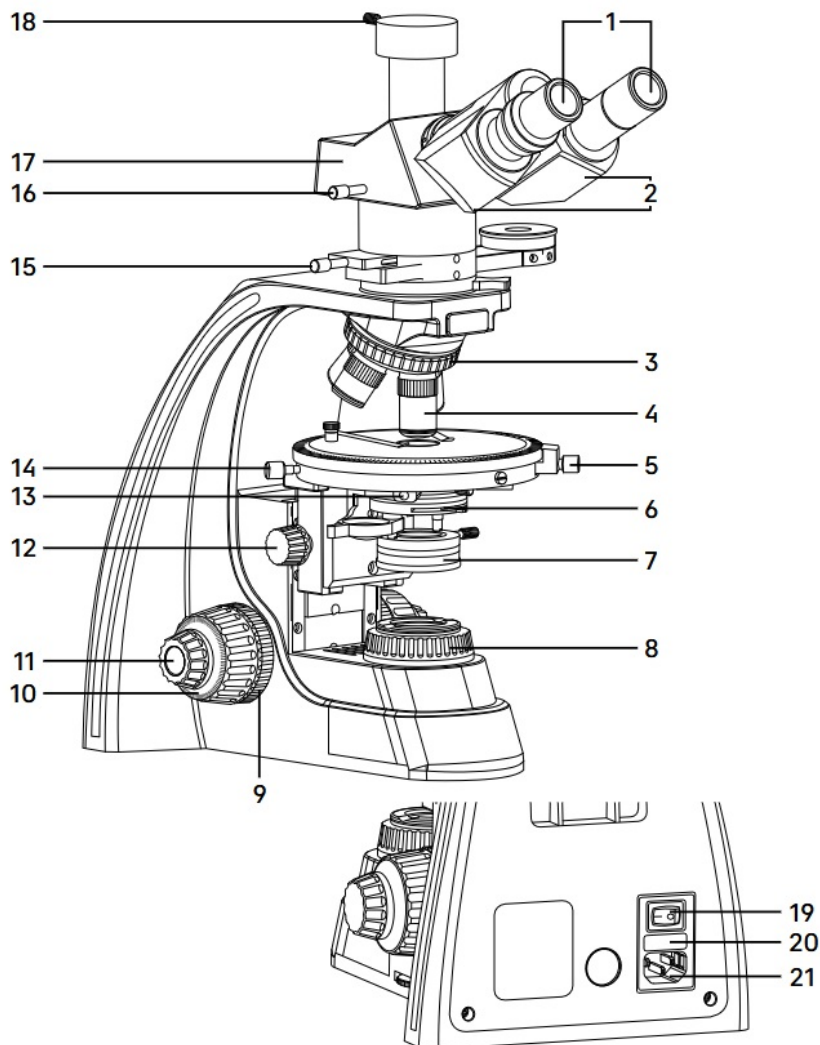
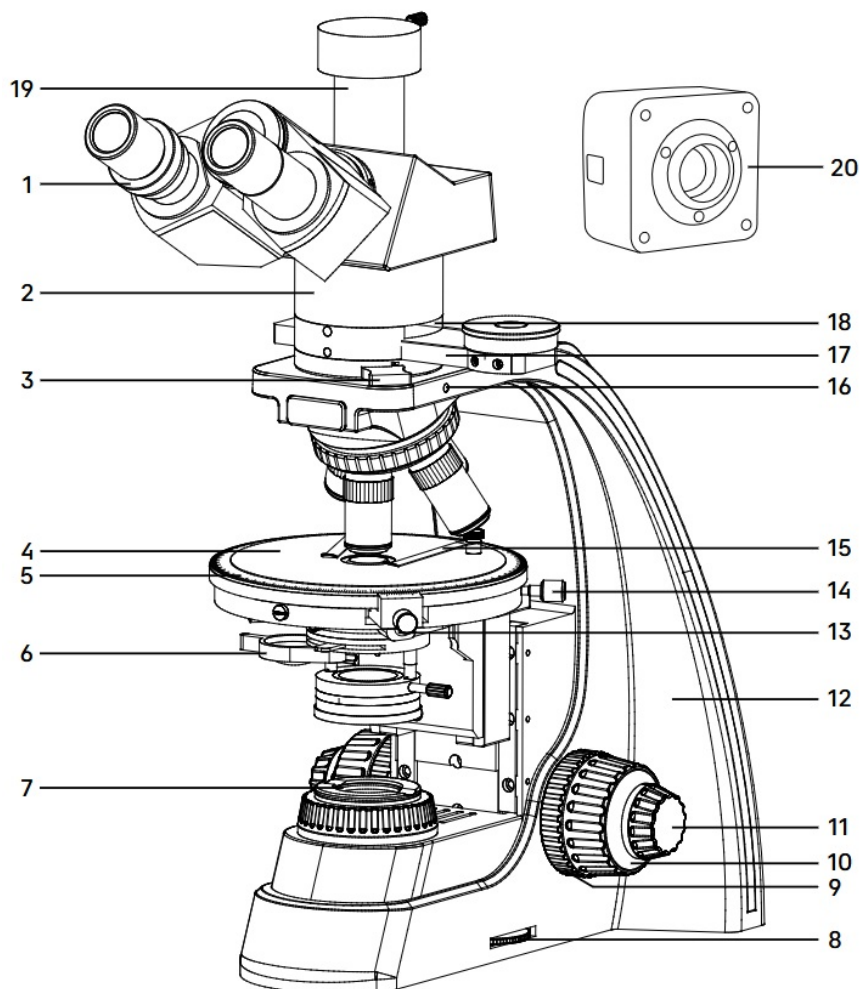

Fig. 1. MAGUS Pol D800 Microscope. View from the left
Fig. 2. MAGUS Pol D800 Microscope. View from the right
The general view of the microscope is given in Fig. 1 and 2.
The stand 12 (Fig. 2) has stable ergonomic design. Parts attached to the stand:
- revolving nosepiece 3 (Fig. 1) with objectives 4 (Fig. 1)
- stage 4 (Fig. 2)
- condenser mount (not shown in Fig. 1 and 2)
- collector 8 (Fig. 1).
The back panel of the microscope stand contains an ON/OFF switch 19 (Fig. 1), fuse holder 20 (Fig. 1), and a connector for the AC power cord 21 (Fig. 1), which connects the microscope to an AC outlet.
There is a brightness adjustment ring 8 (Fig. 2) on the right of the stand.
Focusing on the specimen is achieved by adjusting the height of the stage. Coarse focusing is performed by rotating the coaxial knobs 10 (Fig. 1, 2) on both sides of the microscope stand.
Fine focusing is performed by rotating the knobs 11 (Fig. 1, 2) on both sides of the microscope stand. Fine focusing allows for more precise focusing on the specimen and re-focusing the microscope to get an accurate image resolution when changing objectives and specimens. Fine focusing scale value: 2 $\mu$ m.
The coarse focusing tension adjustment is performed by the ring 9 (Fig. 2) between the stand and the coarse focusing knob on the right side. The ring adjusts the coarse focusing tension so that the tension is convenient for the user, but the revolving nosepiece with objectives does not lower spontaneously during operation.
The coarse focusing lock knob 9 (Fig. 1) is located on the left side. Once the coarse focusing is completed, we recommend rotating the knob clockwise as far as it will go. This secures the coarse focusing position to allow for rapid re-focusing after the specimen is changed.
The trinocular head 17 (Fig. 1) provides the visual observation of the specimen image. The microscope head is
An imaging system with a monitor is installed in the trinocular tube 19 (Fig. 2) using a C-mount adapter. You can switch the light path to the trinocular tube using the lever 16 (Fig. 1). The lever has two positions: 100/0 and 0/100.
The revolving nosepiece 4 (Fig. 2) allows for the installation of five objectives. The free slot is used to adjust the bulb position in the reflected light illuminator and install an additional objective. Objectives are changed by rotating the knurled ring of the revolving nosepiece until the objective fits into place.